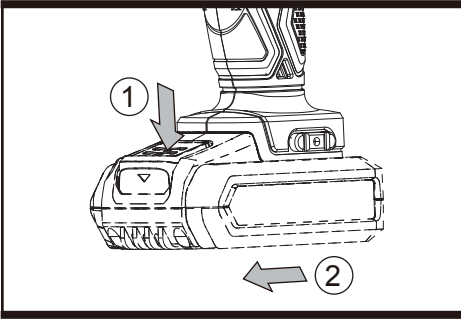

Fig.A1
1. REMOVING OR INSTALLING THE BATTERY PACK (NOT SUPPLIED) (SEE FIG. A1, A2)